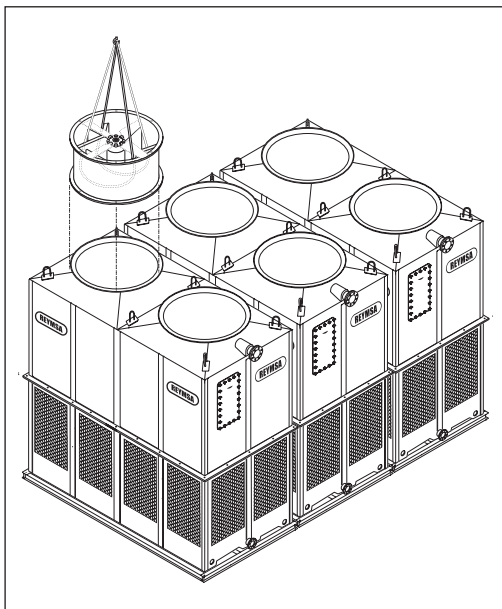

Figure A-63: Fan Duct installation for a Modular Tower (RTM-B-L)
- D. Then cradle/straddle the fan support with the straps (as shown in figure A-63 and A-64) so you can lift the fan duct with a crane and assemble it.